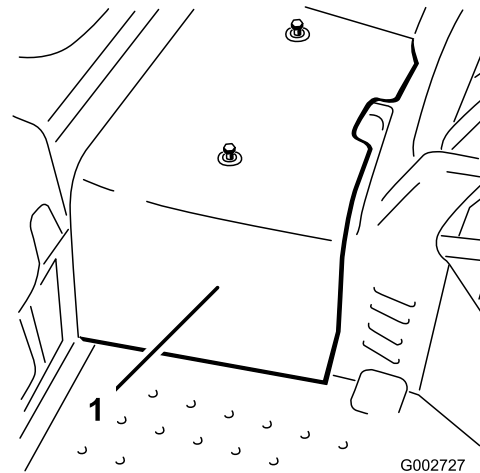

Figure 32
2. Loosen the 2 screws securing the center shroud to the machine and remove the shroud (Figure 32).